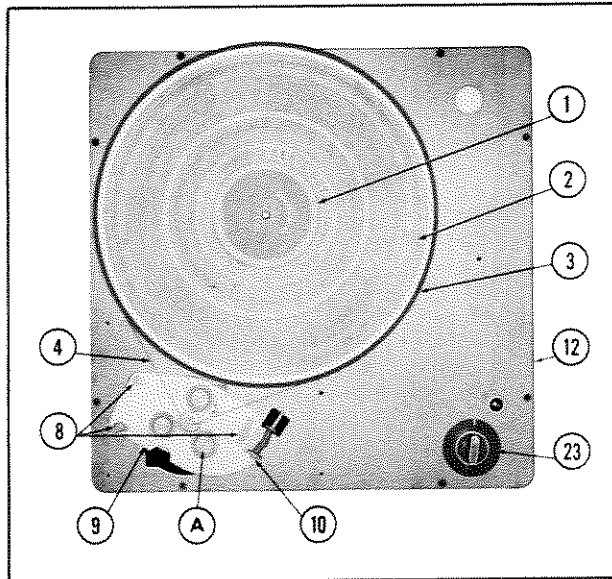

Fig. 3. Top View - N-33H with Cover Removed
If the belt is too high on the motor pulley, turn motor adjustment screw (A) (Figs. 3 and 4) clockwise to lower it.